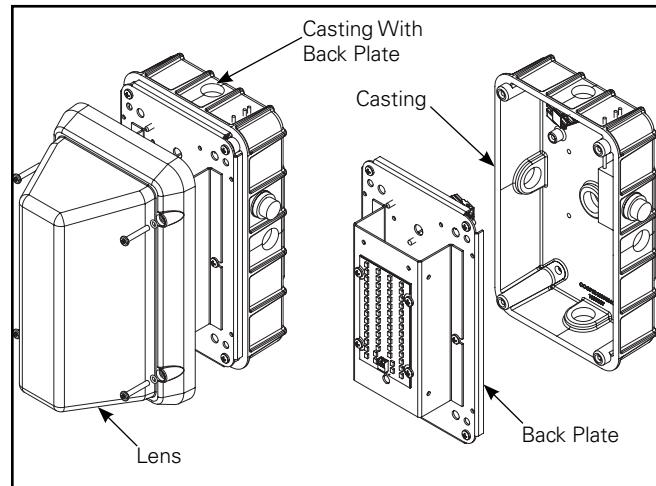

Figure 5.
- Remove back plate using Philips screwdriver (see Figure 5) and detach quick disconnect.